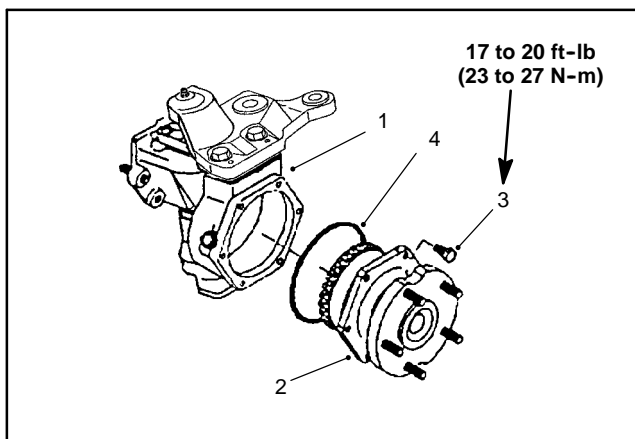

Figure 18
3. Remove the axle cover mounting screws. Remove the axle cover from the axle case as an assembly (Fig. 18).